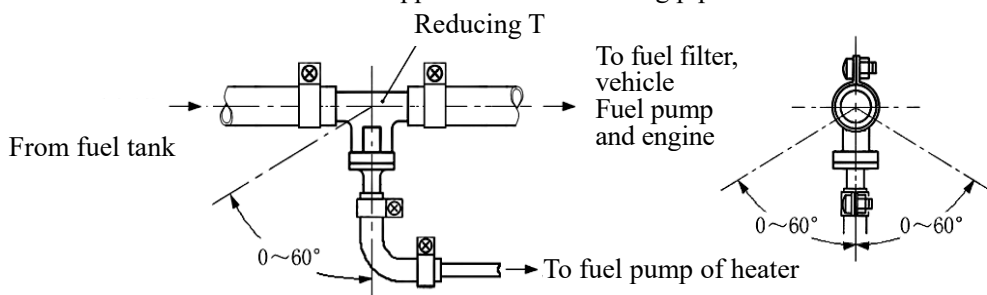

Fig.20
4.4.6.2 If fuel is sucked from the fuel pipe to the engine, the fuel pipe from the fuel tank to the fuel filter shall be disconnected and re-connected with the thicker pipes of the reducing T and the thinner pipe of the reducing T shall connect the fuel pump of the heater via oil pipe fitting and fuel pipe. Must ensure fuel extraction without any pressure and extract the fuel smoothly when the car is stopping. The angle for installation must in conformity with Fig. 20, or normal work of the heater will be affected.